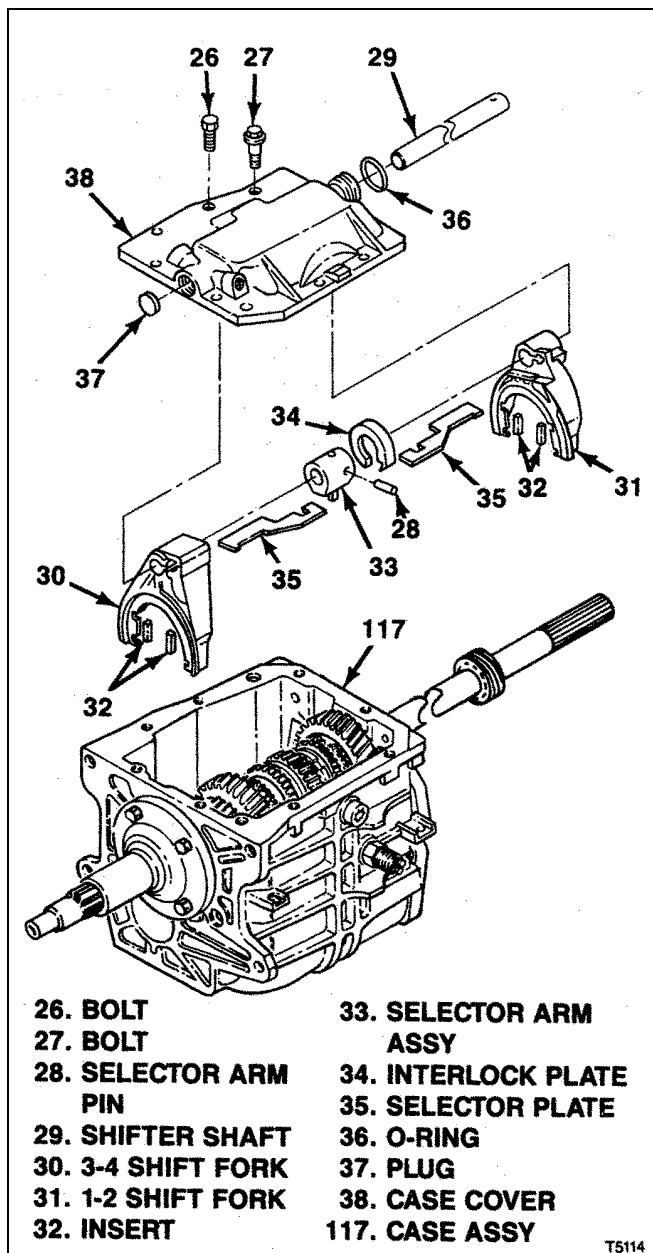

Figure 6-15. T5 WC Case Cover
**6-17. ASSEMBLY AND INSTALLATION OF T5 WC SHIFT FORKS AND CASE COVER.** With case cover on work bench, open face up, assemble shift forks. Then, install on transmission. Proceed as follows (see figure 6-15):
- Install o-ring (36) on case cover (38).
- Install inserts (32) on shift forks (30 and 31).
- Install selector plates (35) in shift forks (30 and 31).
- Start shifter shaft (29) into rear of case cover (38) until end of shaft is flush with inside of case cover.